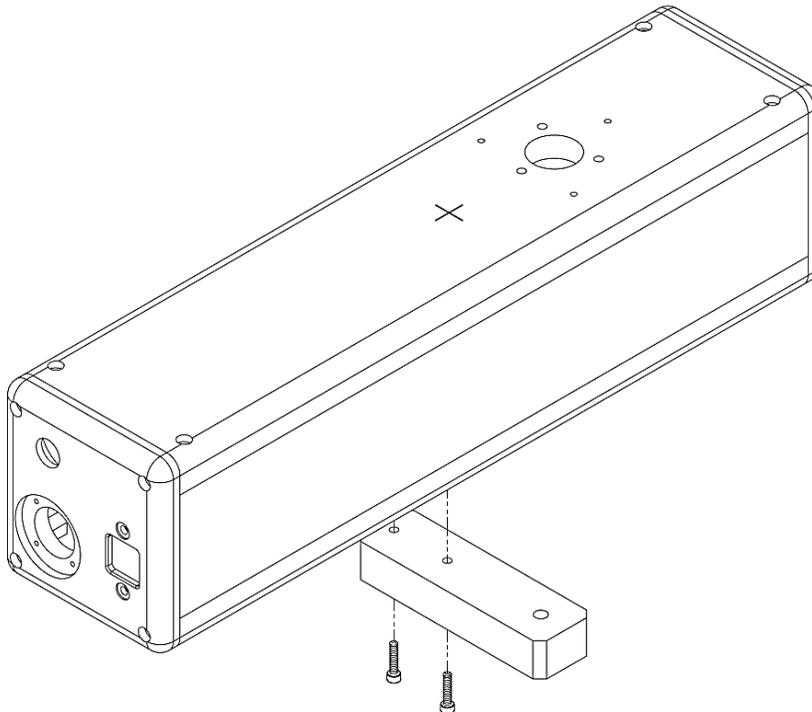

Figure 3: Attach plunger mount
2. Attach the plunger mount using the two (2) 4-40 screws provided. Orient as shown in Figure 3.